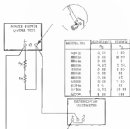

Figure 5-5. Load Regulation, Constant Voltage
- Connect test setup shown in Figure 5-5.